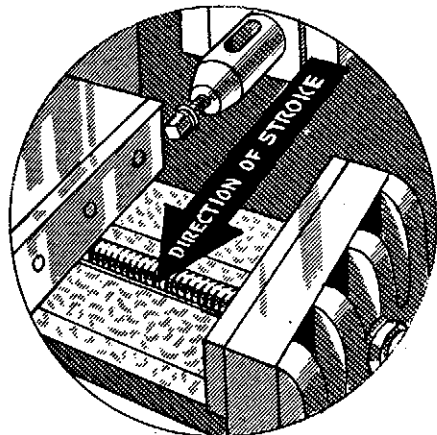

FIG. 145
2. Set the vise jaws approximately parallel with the direction of the stroke. (Refer to Fig. 145.)